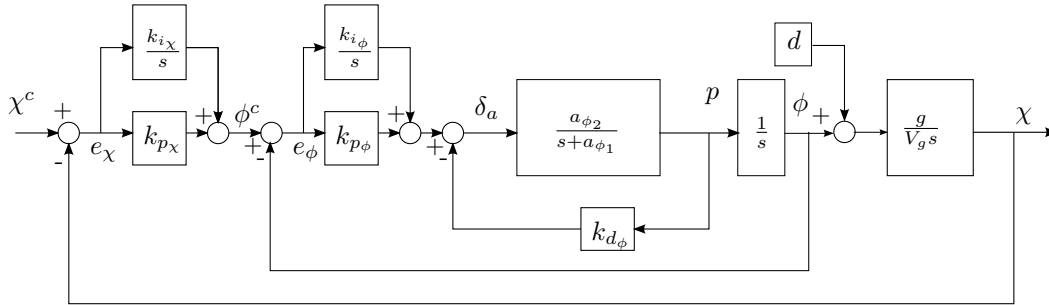

Figure 1: Successive loop closure for autopilot design.
Figure 1 shows the block diagram for a lateral autopilot using successive loop closure. The autopilot is based on a simplified version of the coordinated turn equation and a linearization of the roll dynamics from the book [1]. This represents an autopilot for course hold using aileron δ_a as control input. The disturbance d in Figure 1 models a bias in the coordinated-turn equation, and should have a constant value of 1.5 degrees. It should not be included in the roll feedback loop.
- Find numerical values for a_{ϕ_1} and a_{ϕ_2} based on the state-space model (1).
- Find numerical values for the five gains in Figure 1 associated with the lateral autopilot using successive loop closure. Use root-locus analysis to propose an interval where the integral gain in the roll loop (k_{i_ϕ}) should be chosen within in order to maintain system stability. Include a figure of the root-locus analysis in your report and remember to specify the input range for the gain somewhere in the figure (use both positive and negative gain values). Justify how you choose the design parameters in the course loop.
- d) Present simulation results for the system in Figure 1 with course changing maneuvers: choose a series of steps (you may choose yourself the desired values). Comment on the results. You should not have larger steps than ± 15 degrees. Include figures of the course and the aileron input in the report.
- e) Present simulation results for course changing maneuvers (choose the same desired values as in Problem 2d) with the complete state-space model (1). Keep your control gains from Problem 2d). The aircraft model must be the complete state-space model, including the actuator dynamics, and the simplified version of the coordinated turn equation must be replaced by the real coordinated turn equation (4). Moreover, the system dynamics (1) should replace the simplified roll dynamics in Figure 1. Remember to add the bias d at the appropriate place. Compare the results with the results obtained in Problem 2d). Would you say that the simplified model in Problem 2d) accurately reproduce the true dynamics? Include figures of the course and aileron input in the report.